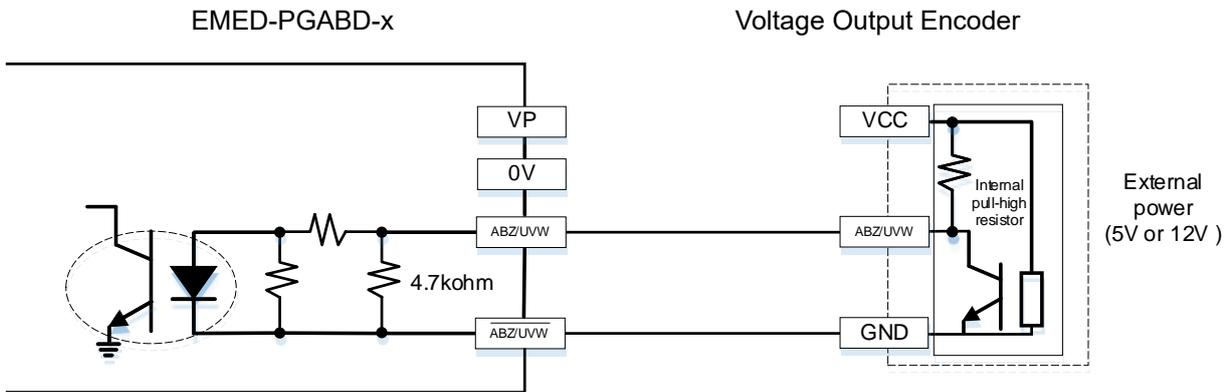

Figure 5
2. Voltage output encoder application: Each set of input current is 5–15 mA. If input voltage uses 5V or 12V external power, see the PG wiring Figure 5 below.